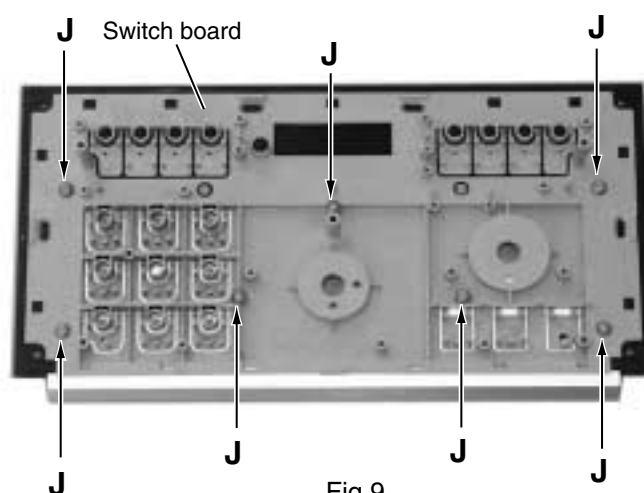

Fig.9
■ Removing the switch board (See Fig.9)